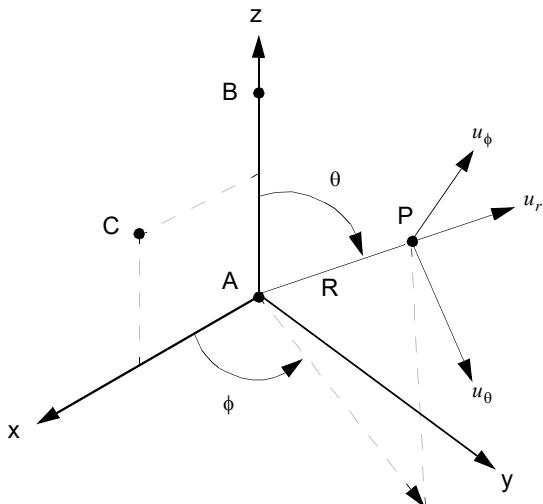

Figure 9-45 CORD2S Definition
6. The location of a grid point (P in Figure 9-45) in this coordinate system is given by (R, θ, ϕ) , where θ and ϕ are measured in degrees.